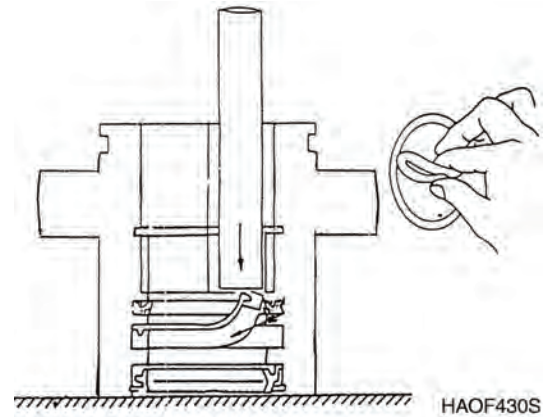

Figure 34
3. Prelubricate O-rings and seals before assembly (Figure 34).
1. Arm2 section (Figure 34)